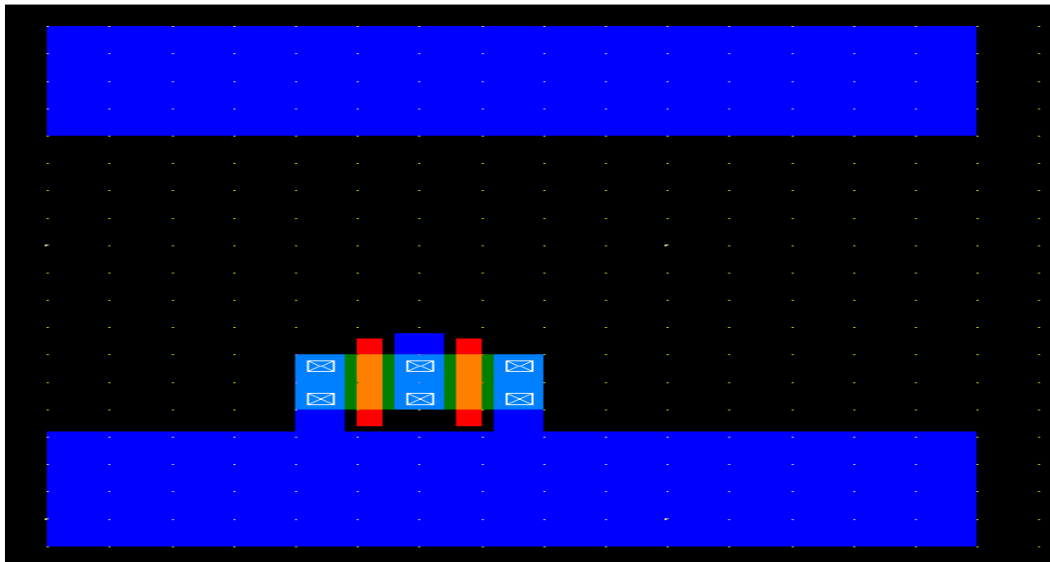

Figure 37: insert another NMOS device
- The next step is to connect the inputs and the output of the two transistors. See figure 37: